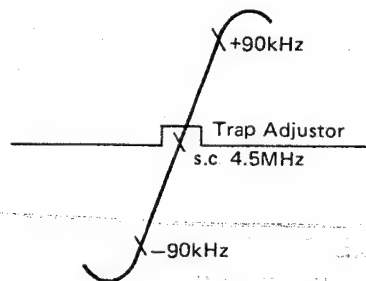

Fig. 17
9. Adjust C274 to obtain the waveform as in fig. 17.